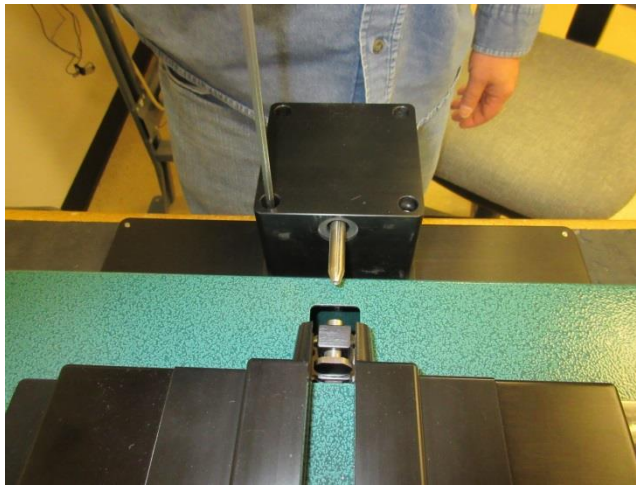

Figure 14: Tightening the bolts
- Tighten all four (4) mounting bolts to secure the nest to the pedestal. (Figure 14)